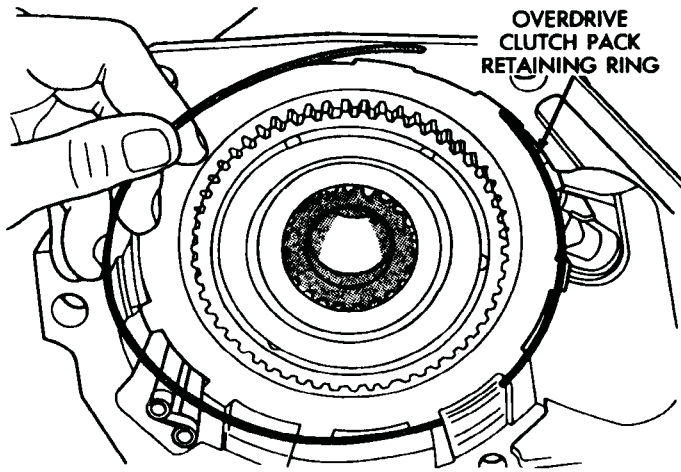

Fig. 5 Overdrive Clutch Pack Retaining Ring Removal
(5) Remove overdrive clutch pack retaining ring (Fig. 5).